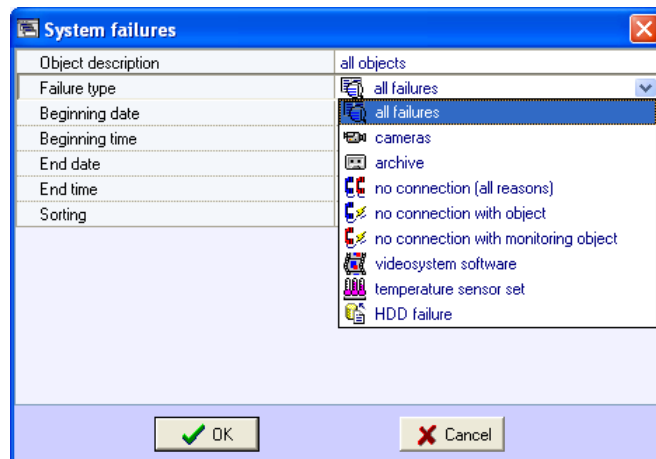

Fig. 7.2—4 Failure type selection
4. Sorting (Fig. 7.2—5). A report can be sorted in one of two ways: